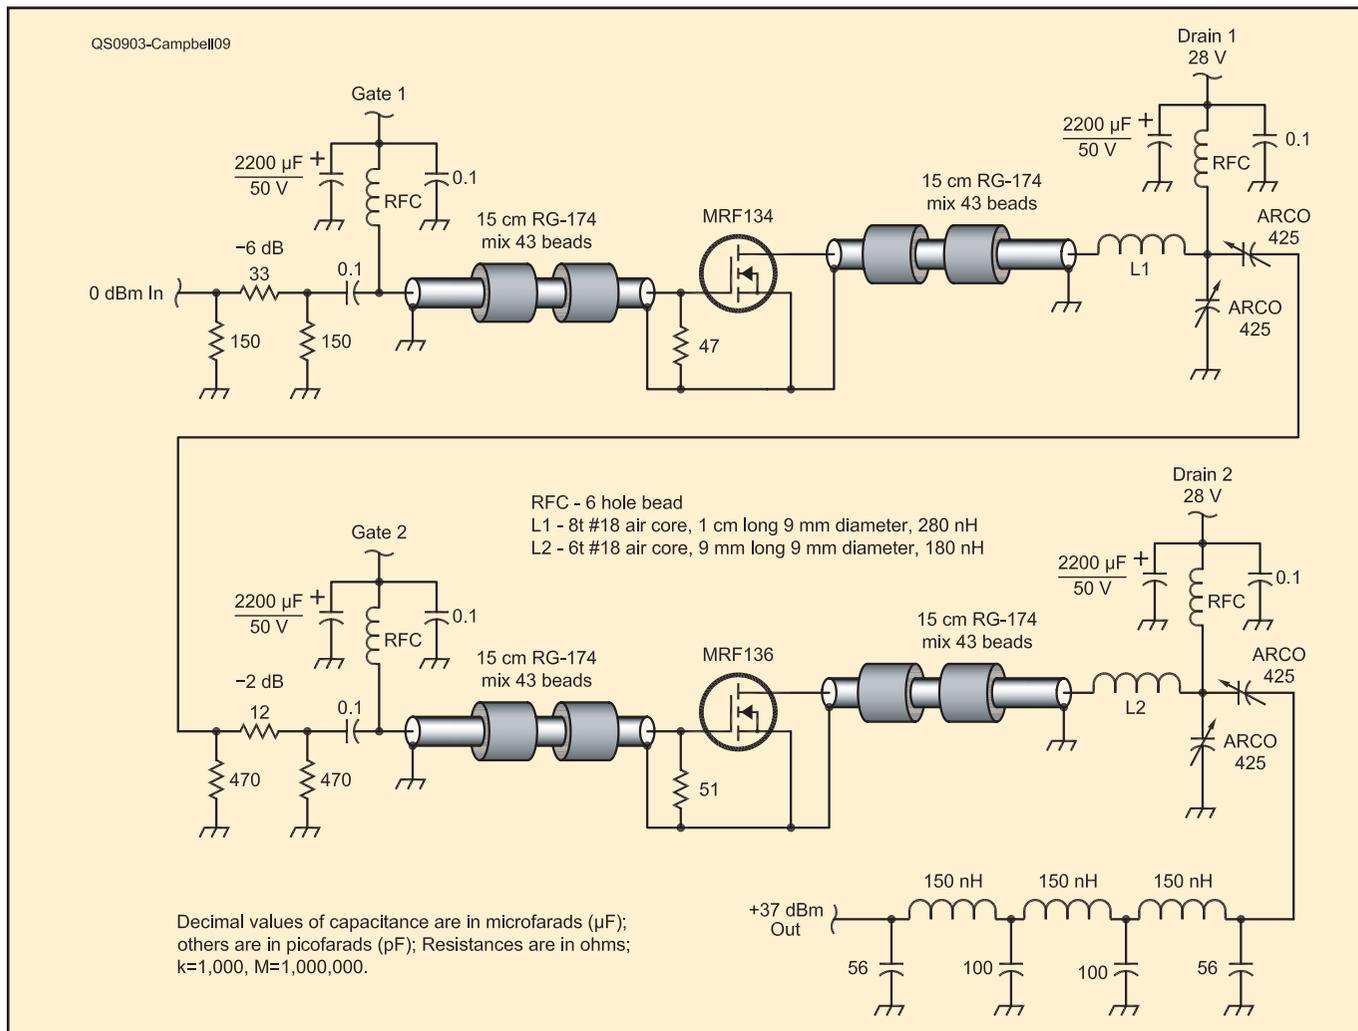

Figure 8 — Schematic of 6 meter amplifier.
The 2SC5739 transistor has low gain at 50 MHz, so different driver and final devices were chosen for the 6 meter linear amplifier. In keeping with the experimental nature of the project, both of these devices came from the junk box, in fact they were unsoldered from a printed circuit (PC) board obtained from a flea market. The driver transistor is an MRF134, and the final is a MRF136 power FET unsoldered from an old PC board. The MRF136 is capable of much more power output than the 2SC5739, so a larger heat sink was used. The bias connection is different as well, since the FETs require forward bias of about 4 V on the gate. These small variations are easily seen in the schematic of Figure 8.